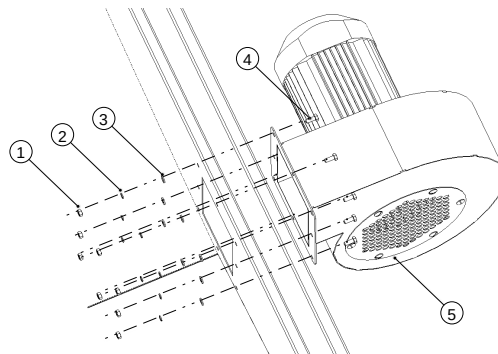

Figure 1: Blower
5. Attach the blower (5) to the base frame, using M6 Bolt (4), M6 Flat washer (3), M6 Spring washer (2), and M6 Nut (1), see Fig.1: